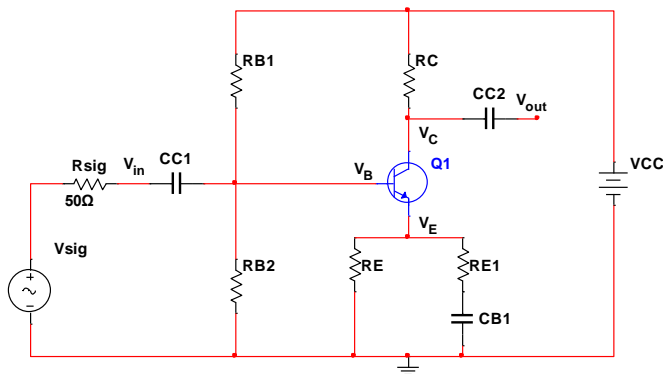

Figure 1.1 – Complete Common-Emitter Amplifier
1. **Begin** with the skeleton of the amplifier we would like to design shown in **Figure 1.1**.